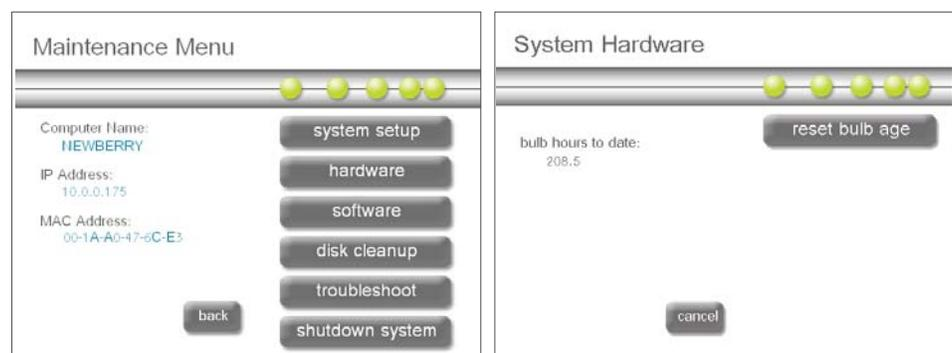

Figure 3.16 Maintenance Menu and System Hardware screen
2. From the Maintenance Menu, select **hardware** (Figure 3.16).